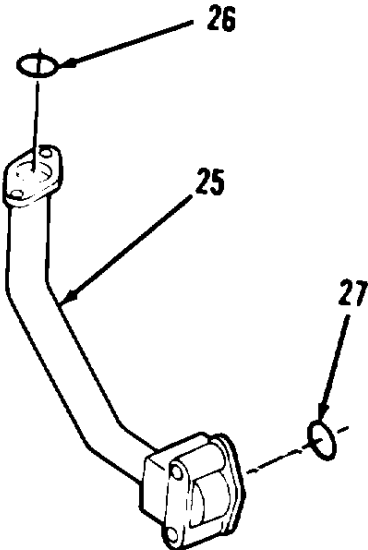

Figure 5-52.
- 8. Remove and discard preformed packings (26 and 27) from tube (25, Figure 5-52).
- 5. Install new preformed packings (27 and 26) in tube (25, Figure 5-52).